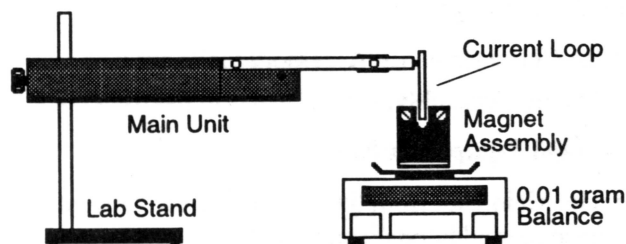

Figure 6: Setting Up the Current Balance (Side View).
2. Plug the current loop to the ends of the main unit, with the foil extending down. Make sure the plane of the loop is hanging down vertically (see Figure 6).